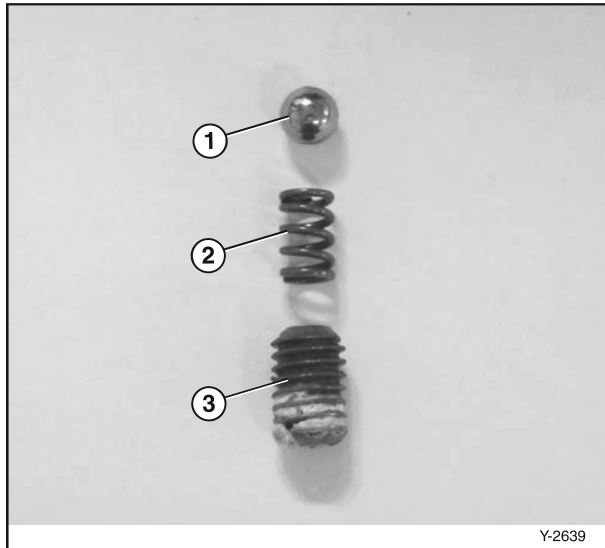

Figure 6-43
11. Remove the set screw (**Figure 6-43, (3)**), the spring (**Figure 6-43, (2)**) and the detent ball (**Figure 6-43, (1)**).